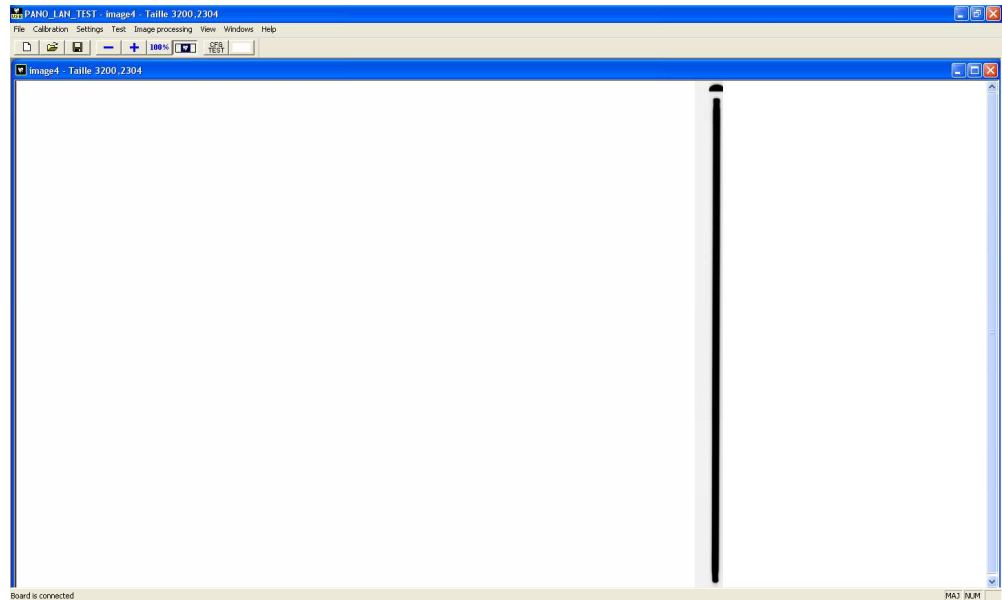
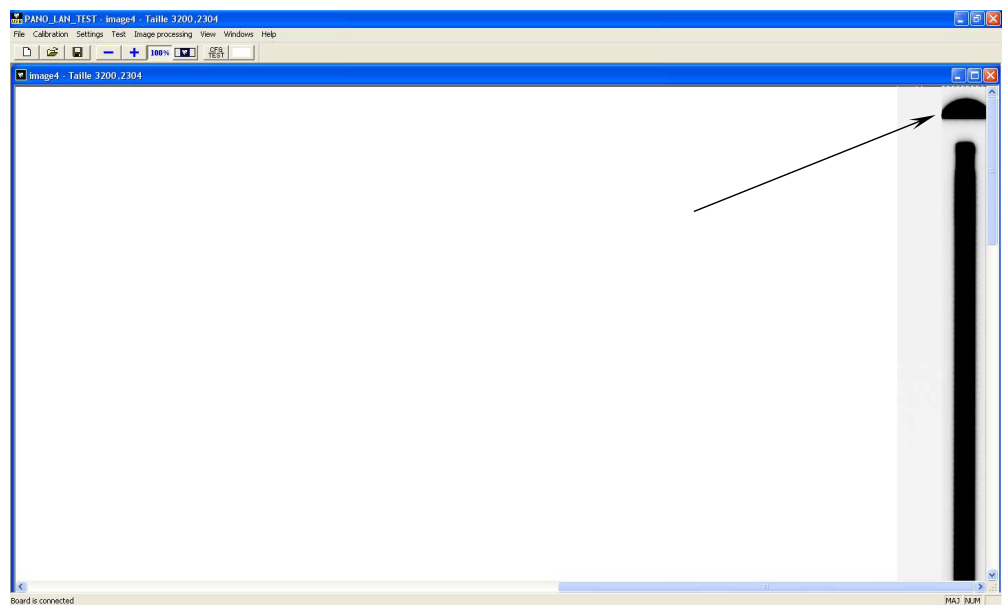

Figure 9-34
Figure 9-35
- 39.** Take X-ray pressing the X-ray button and check if in the obtained narrow image the projection of the slit of the centering tool is vertical and centered with the arc (Figure 9-34 and Figure 9-35).